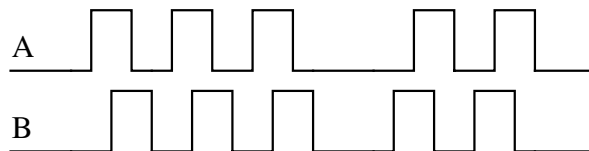

Figure 22. Outputs *A* and *B* from a quadrature encoder driven by a rotary control.
- 7.7 A control knob on an electronic product is connected to an incremental encoder (shaft encoder) with two outputs *A* and *B* in quadrature. The outputs of the two sensors as a function of time are shown in figure 22. The ‘click’ (detent) on the knob is aligned with $A = B = 0$. Explain the output.